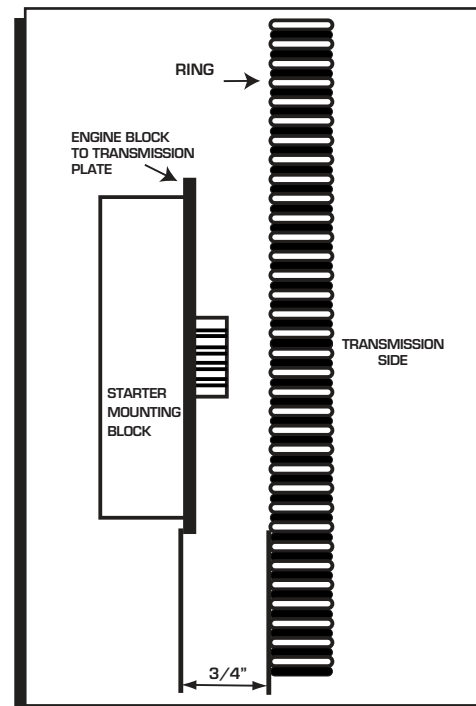

Figure 2 Checking Pinion Clearance.
2. Before mounting the starter, measure the distance from the front of the ring gear (engine side) to the starter mounting surface. It should be 3/4" (Figure 2).